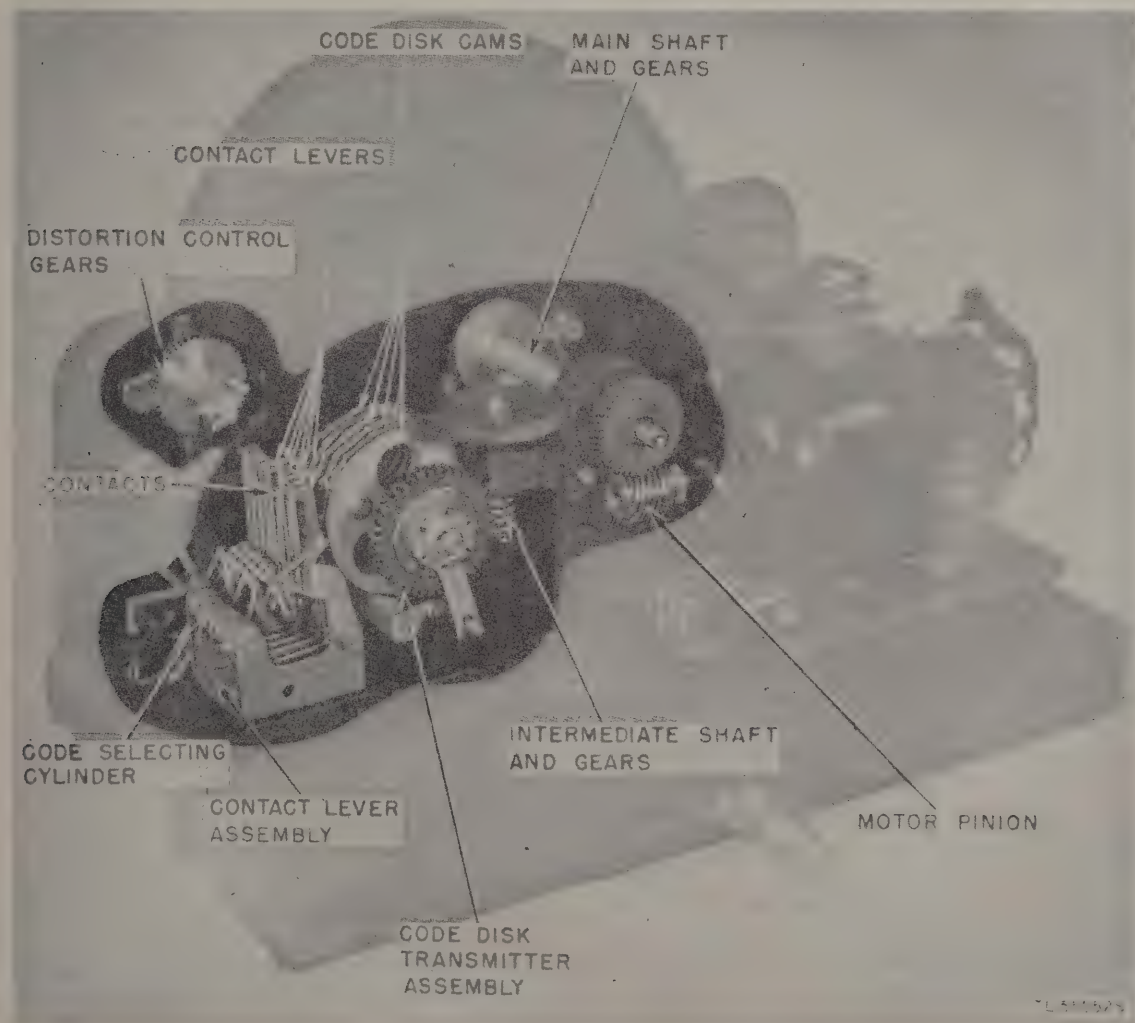

Figure 11. Distortion Test Set TS-383/GG, code disk transmitter assembly.
d. The segmented distributor rings and the solid transmitting pair of distributor rings are electrically connected through the transmitting contacts associated with the code disk transmitter (fig. 11) and the character selecting switch to the
g. The main distributor shaft is mounted horizontally in the test set. A gear mounted at the end of the main shaft couples the distributor to the pinion of the drive motor. (See fig. 11.)